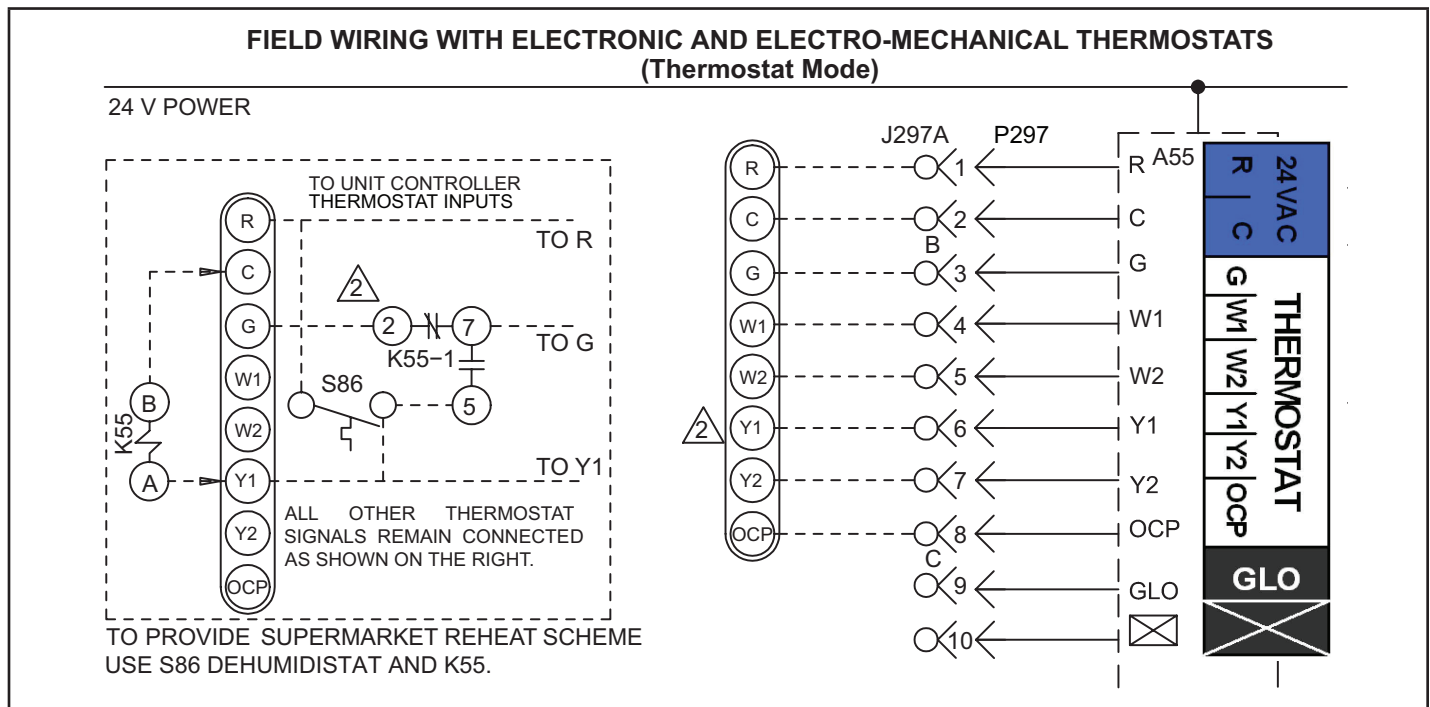
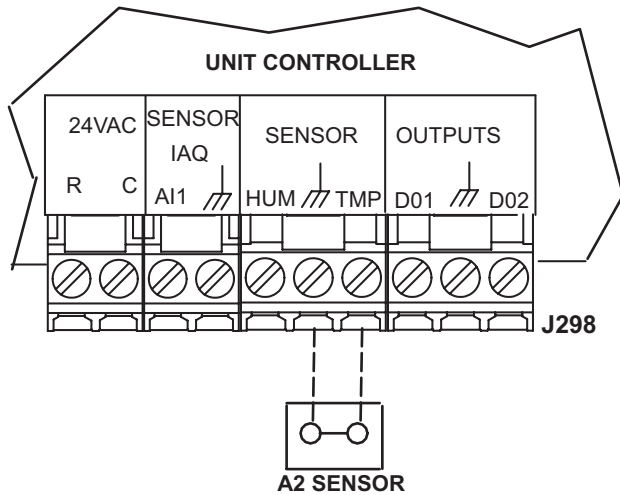
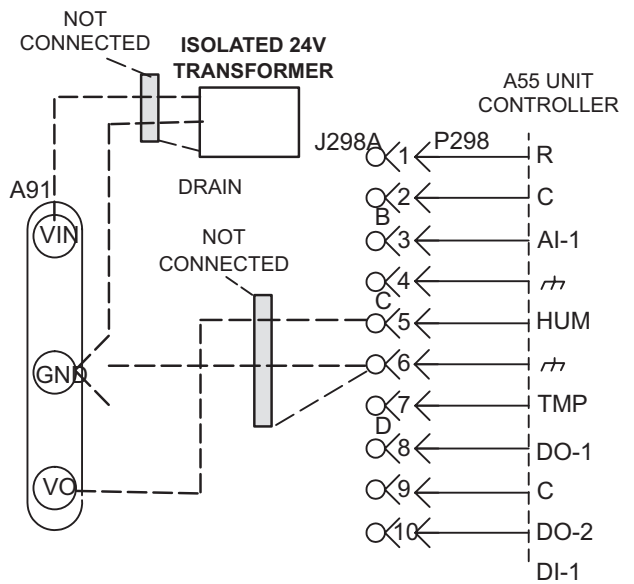
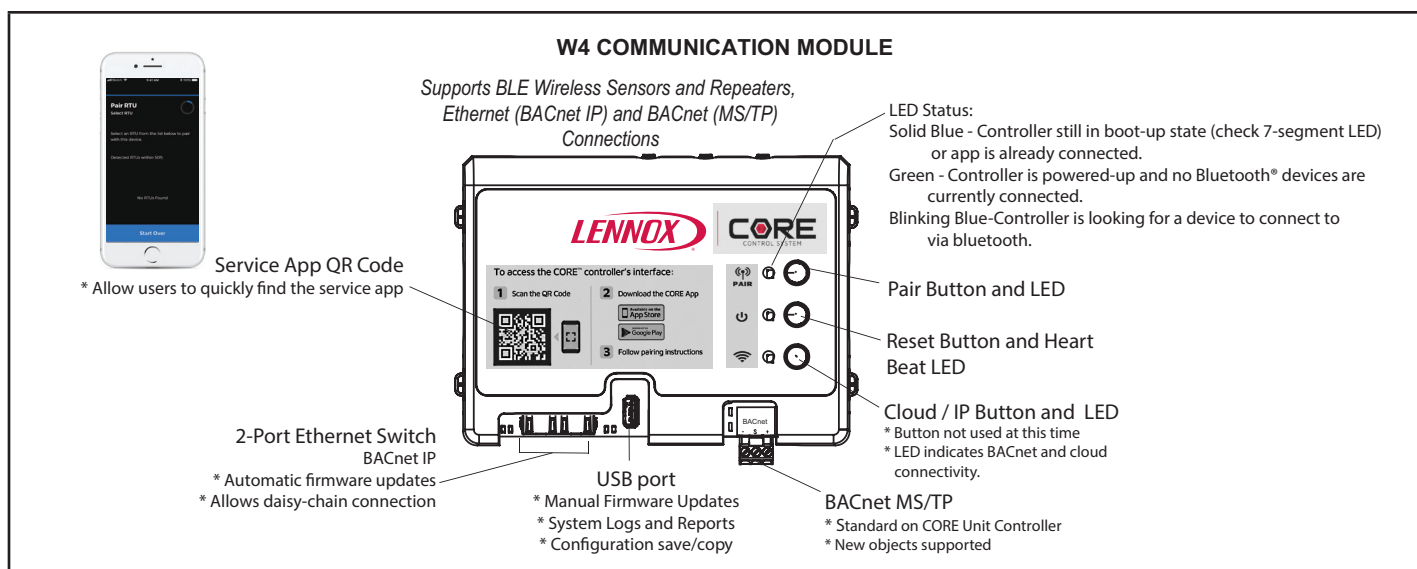

FIGURE 15
FIGURE 16
FIGURE 19
FIGURE 21
- 4 - Wire as shown in FIGURE 15 for electro-mechanical and electronic thermostats. If using other temperature control devices or energy management systems see instructions and wiring diagram provided by manufacturer.
The Unit Controller will operate heating and cooling based on the Unit Controller internal setpoints and the temperature from the A2 zone sensor. An optional Network Control Panel (NCP) can also be used to provide setpoints. A thermostat or return air sensor can be used as a back-up mode. Make zone sensor wiring connections as shown in FIGURE 16.
- 2 - Make wiring connections as shown in FIGURE 15 for Thermostat Mode or FIGURE 16 for Zone Sensor Mode. In addition, connect either a humidity sensor or a dehumidification input. See FIGURE 17 or FIGURE 19 for humidity sensor wiring or FIGURE 18 for dehumidification input wiring.
Use a local, isolated 24VAC transformer such as Lennox cat #18M13 (20VA minimum) to supply power to RH sensor as shown in FIGURE 19. Use two shielded cables containing 20AWG minimum, twisted pair conductors with overall shield. Belden type 8762 or 88760 (plenum) or equivalent.
See figure 19 for the menu overview. Follow the app prompts in the Install, Network Integration, and Test and Balance menus. Verify the app is setup properly for the unit application (including the date and time). Refer to figure 21, 22, and 23.